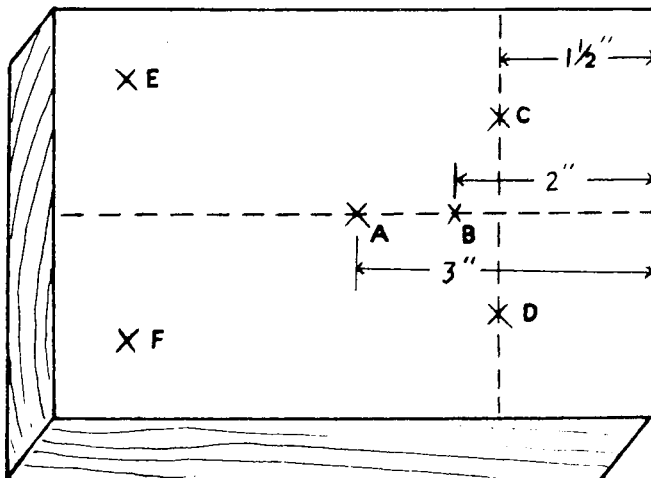

Figure 1 (Circuit Board)
1. Lay out the board with a pencil and ruler as indicated in Figure 1.